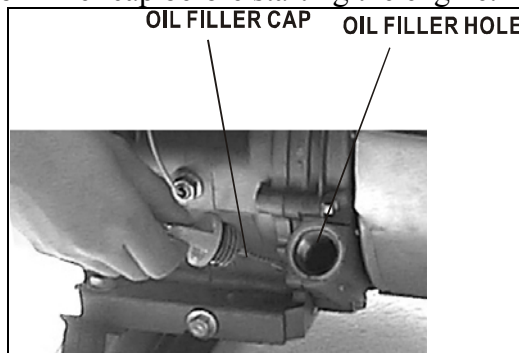

Figure 8- Checking the oil
2. Remove the oil filler/dipstick cap from the engine as shown in figure 8 above.